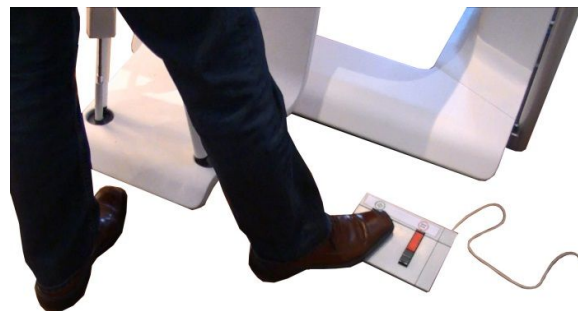

Fig. 34
- When the recording is finished, press the green pedal to stop the recording (fig. 34).